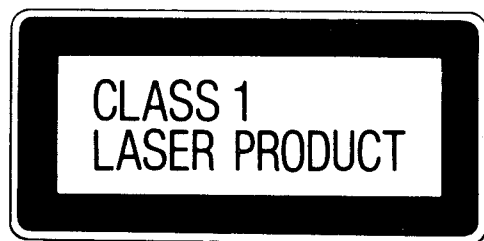
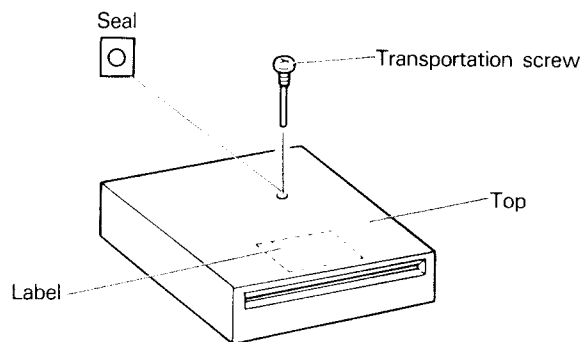

Fig. 1
Fig. 2
- A "CLASS 1 LASER PRODUCT" label is affixed to the bottom of the player. (Fig. 1) (Fig. 2)
- There is a screw on the top of the unit to protect the unit during transportation. Remove the screw before installing the unit and fix the seal supplied over the screw hole. Keep the screw because it must be used if you transport the unit later. (Fig. 2)